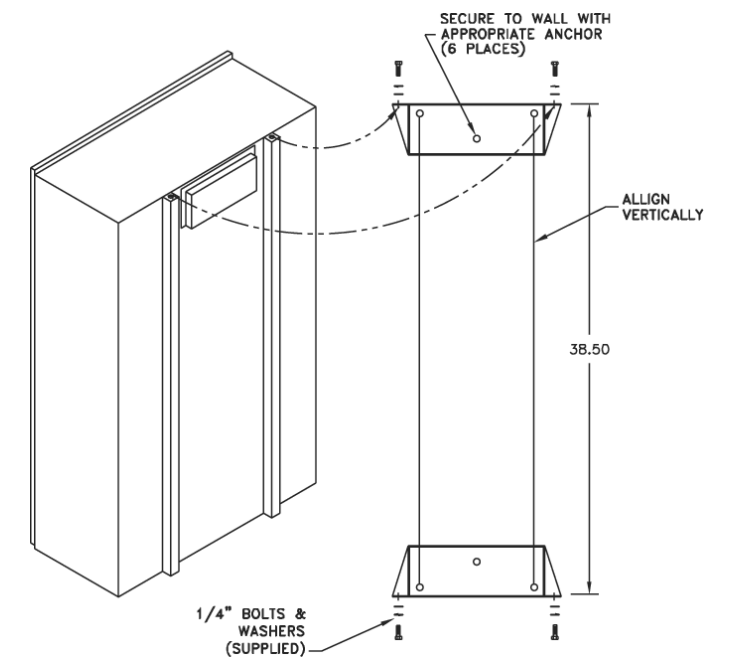

Figure 2: Wall Mount
1. Attach two mounting brackets to wall using anchors appropriate for mounting surface. **See Figure 2.**